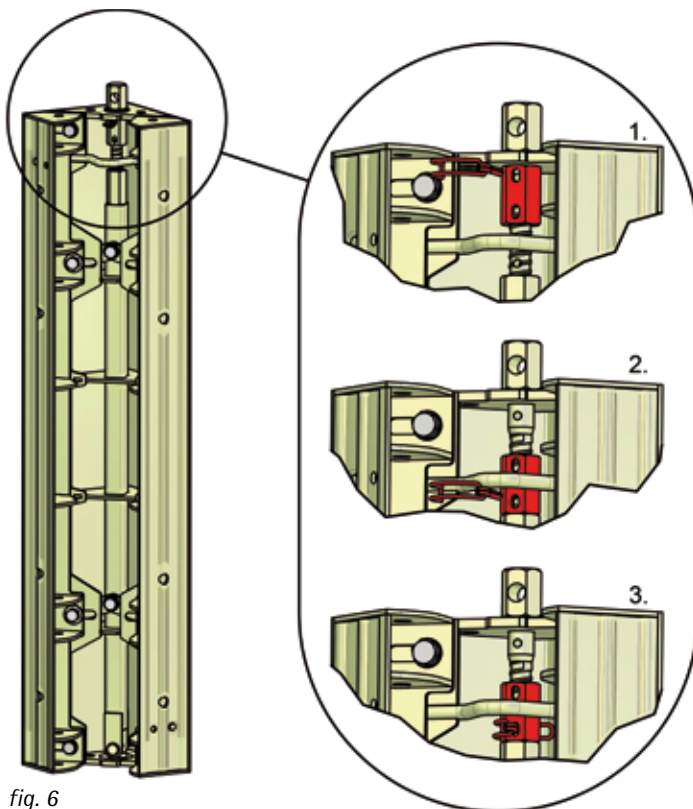

fig. 6
- Refit the tube locking pin in the bottom hole. (see fig. 6)